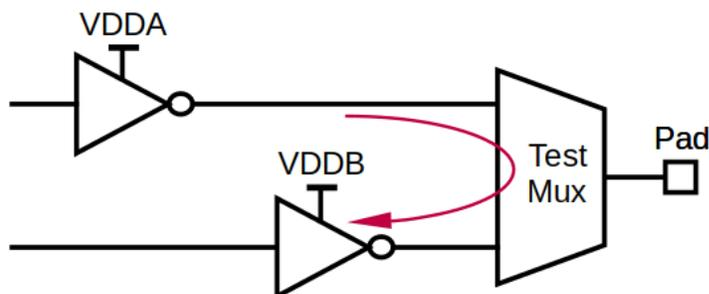

Figure 1: Test multiplexers are a common source of false violations in traditional ERC checks.
The difficulty of finding this form of leakage has serious consequences from a CAD perspective. Traditional ERC software reports many "don't-care" results, because it is difficult to distinguish true leakage risks. Figure 1, below, shows a classic "don't-care" result that frequently gets reported in ERC software. As circuit size increases, more false violations will be reported, but at the same time, the risk and consequences to the circuit also increase.
2. Controls/logic: if the "upstream" control logic ensures that two power rails will never be on together, or never be connected, then they are not a risk. For example, the mux decoder in Figure 1 is a classic "don't-care" result. The mux will only ever connect one domain at a time to the pad, so VDDA and VDDB will never have a DC path.